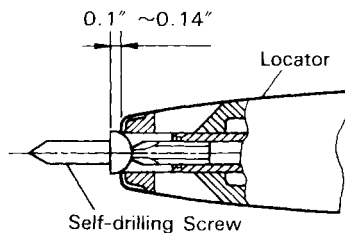

Fig. 5
#### (2) For plus-head Self-drilling screws (Fig.5)